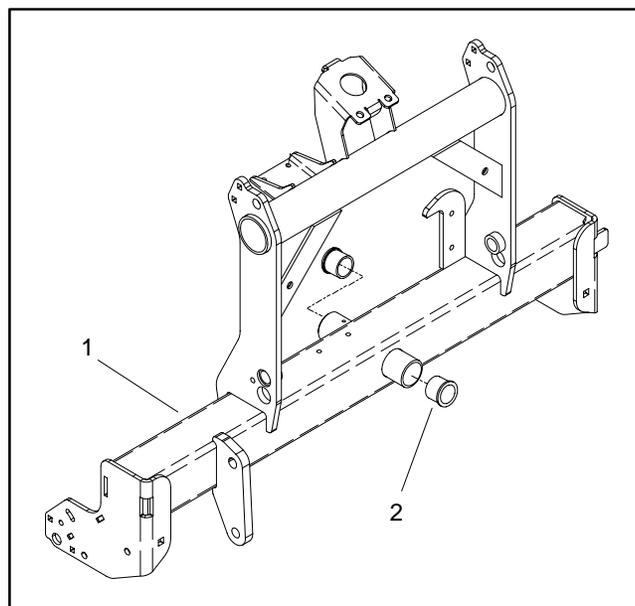

Figure 8
8. Slide both pivot shafts from subframe and hitch frame. Locate and retrieve thrust washer (item 16) from each side of subframe.
10. Inspect bushings in subframe for wear or damage (Fig. 8). Replace bushings if necessary.